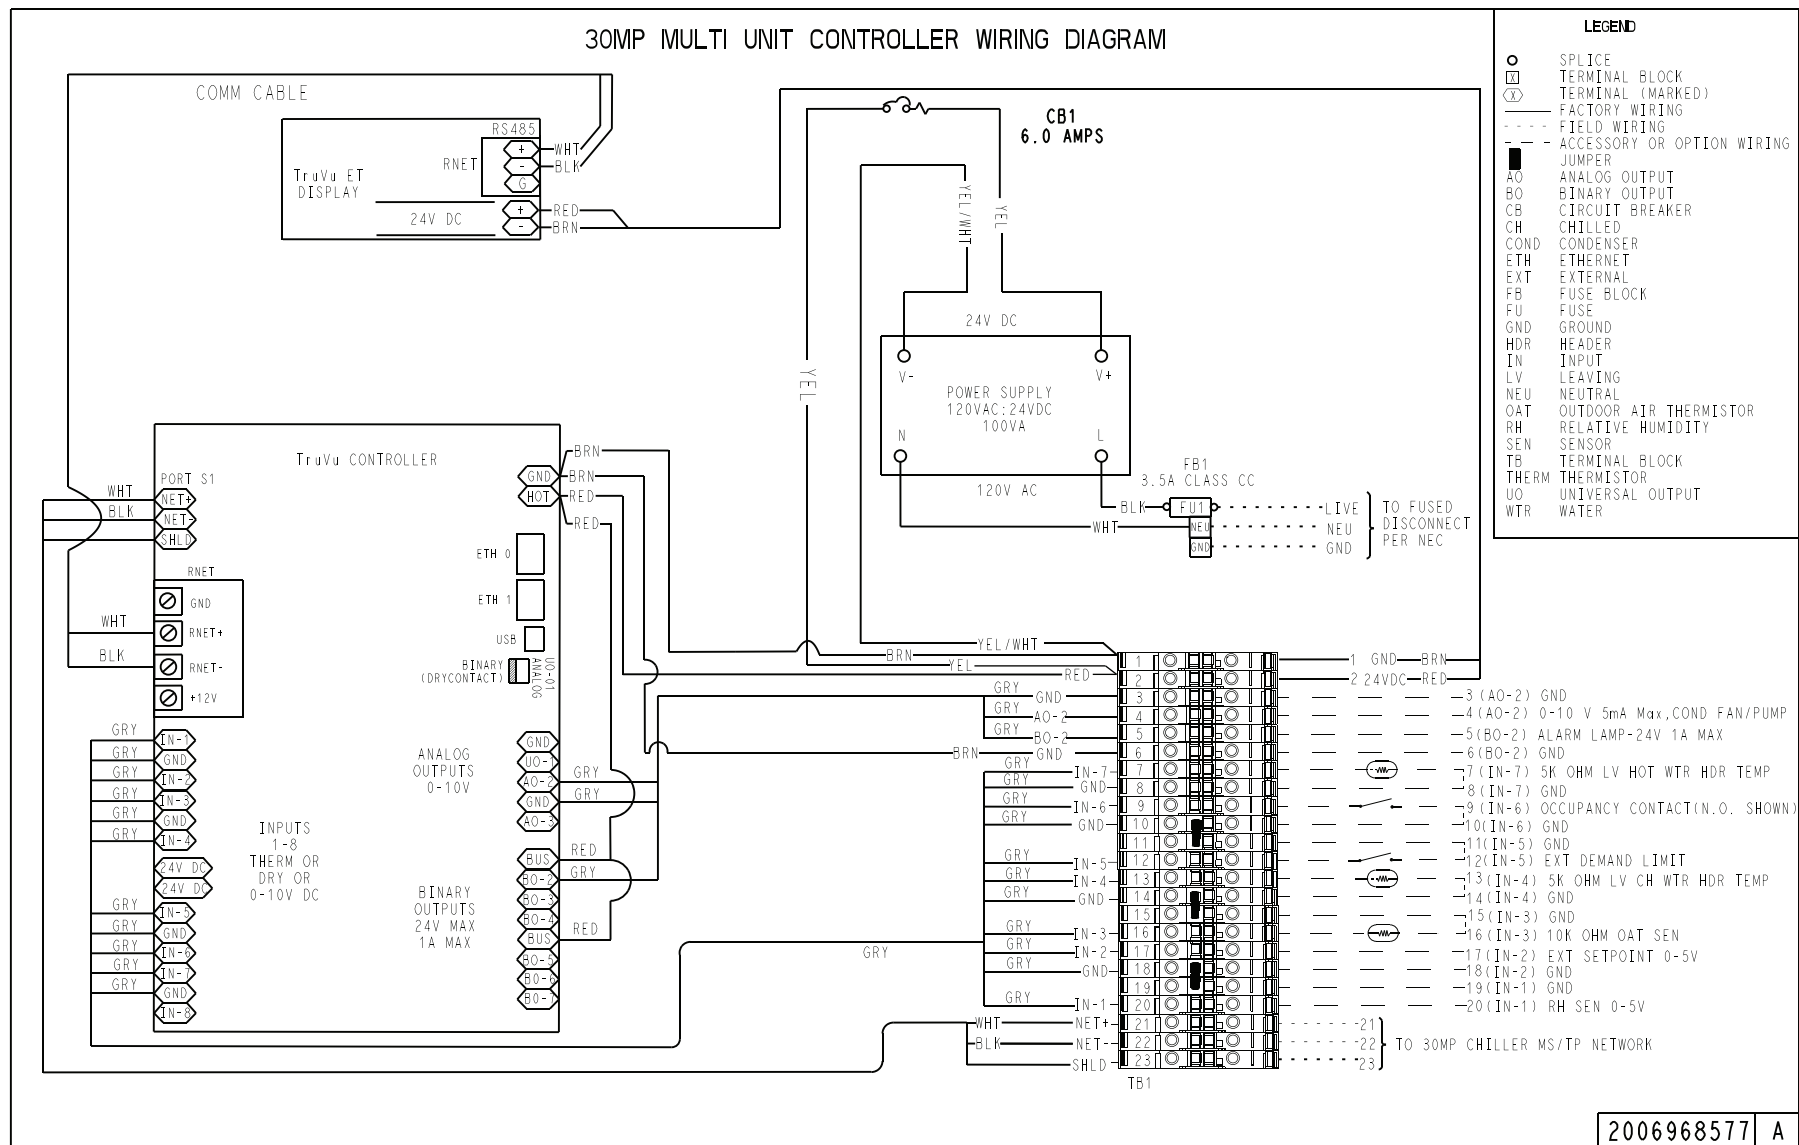

Fig. 11 — Typical Wiring Schematic
Tables 6 and 7 show each available output and input. All connections are made at the terminal block (TB1) in the 30MP multi-chiller controller accessory panel. See Fig. 11.
To wire inputs and outputs, connect to the appropriate landings on the terminal block (TB1) in the 30MP multi-chiller controller accessory panel. See Fig. 11 for the typical wiring schematic and Table 8 for input wiring specifications.
2. Wire the sensor to the 30MP multi-chiller controller accessory panel. Refer to Fig. 11. Sensor must be terminated at Terminals 13 and 14 of TB1.
2. Wire the sensor to the 30MP multi-chiller controller accessory panel. Refer to Fig. 11. Sensor must be terminated at Terminals 7 and 8 of TB1.
2. Wire the sensor to the controller. Refer to Fig. 11. Sensor must be terminated at terminals 15 and 16.
2. Wire the sensor (P/N 33ZCSENSRH-02). Refer to Fig. 11. It must be terminated at terminals 19 and 20. Use terminal 2 on TB1 to connect the 24vdc+ to the sensor.